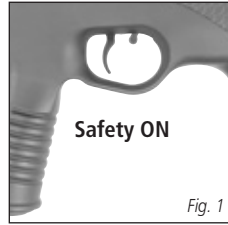

Fig. 1
- To set the safety to 'ON', pull safety lever to the rear. In this position, the trigger cannot be pulled and the gun cannot be fired. (Fig.1)
CAUTION: Until you are actually ready to shoot, keep the safety button in the "ON" position (Fig. 1).